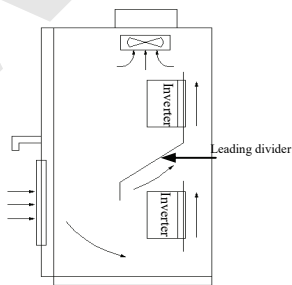

Fig. 3-2 Mounting of multiple inverters
(3) When install multiple inverters up and down, must apply leading divider between them, see fig.3-2